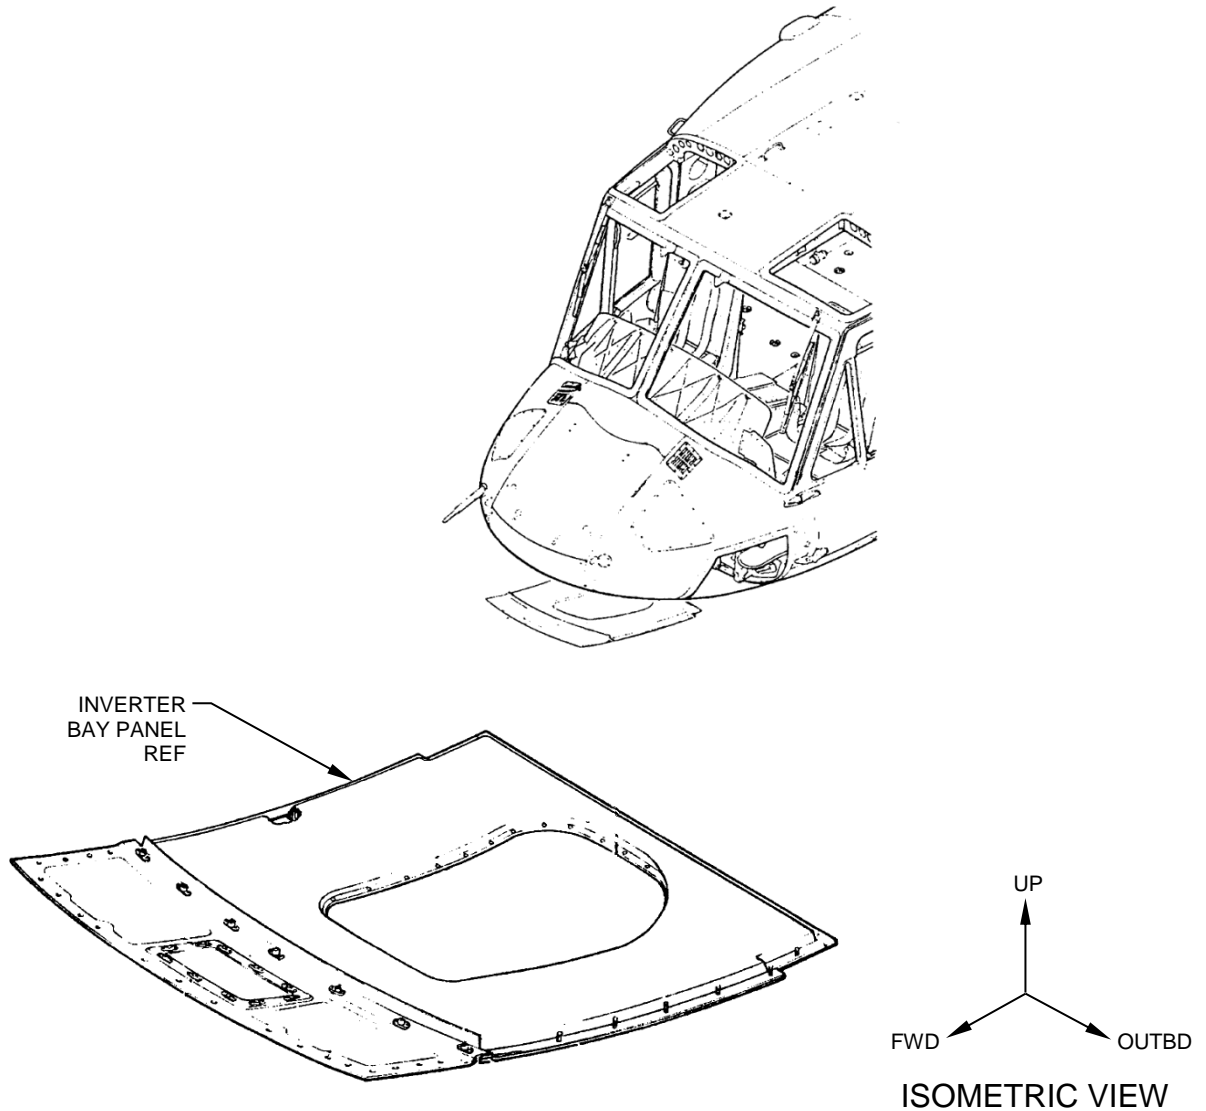

Figure 1
1. Gain access to the inverter bay panel on the underside of the aircraft nose. Reference Figure 1.
2. Remove the inverter bay panel P/N 212-030-206-001. Reference Figure 1.